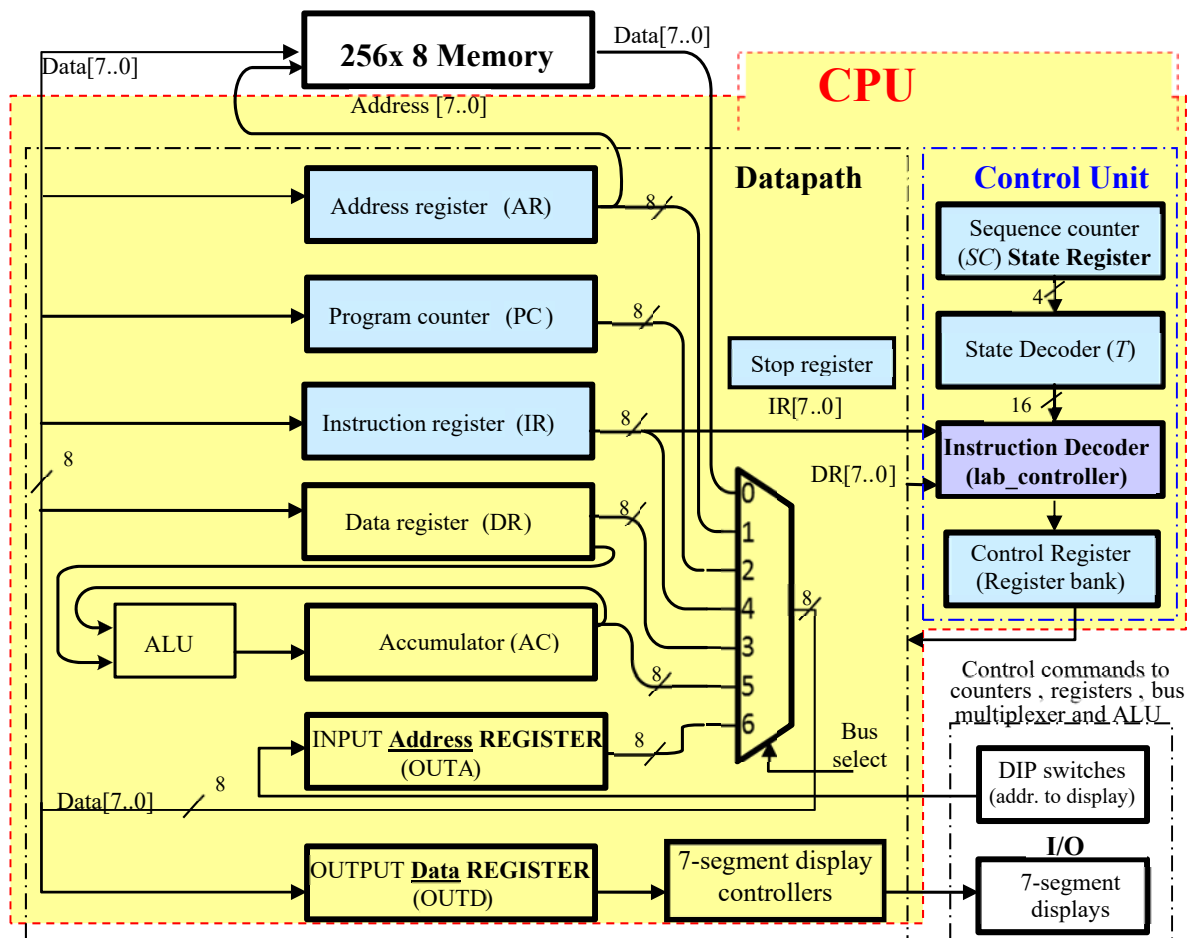

Figure 1: Computer block diagram
The block diagram of your computer is presented in Figure 1. The .bdf files of all the component blocks, except the *Instruction Decoder* (*lab\_controller* of CU), will be provided. The *Control Unit* functions in accord with a time sequence which is generated by the *sequence counter* (SC) that plays the role of